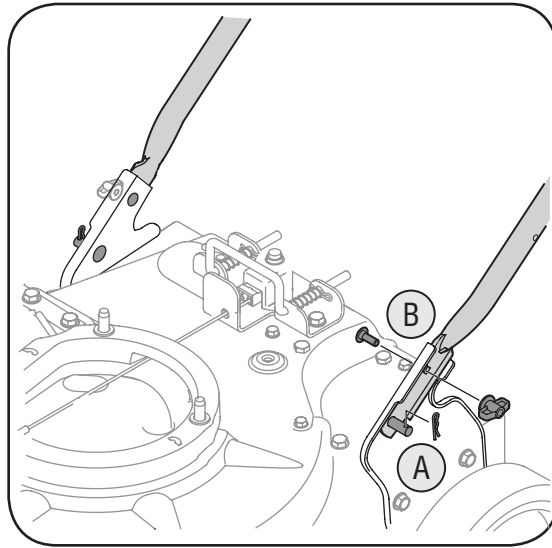

Figure 3-1
- Place the bottom holes in lower handle over the pins on the handle brackets and secure with hairpin clips. See Figure 3-1.
- Insert carriage screws through upper hole in lower handle from the inside and secure with wing nuts. See Figure 3-1.